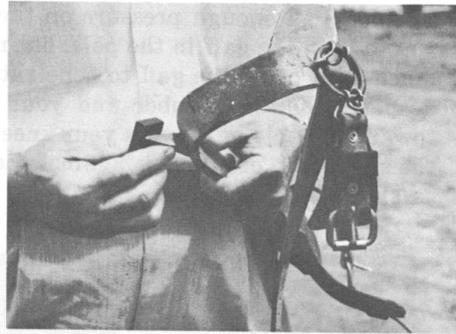

Fig. 18 — Removing Burrs from Top Cutting Edge
7.03 First, if there are any small burrs along the cutting edges, remove them by holding the hone against the side of the gaff and *carefully following the edge around to the tip* as indicated in Figs. 18 and 19.